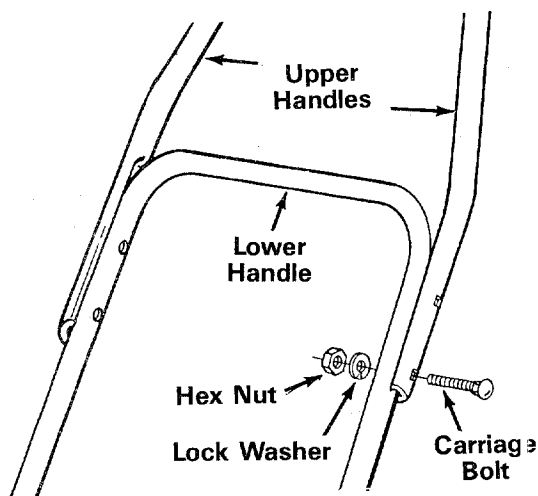

FIGURE 6
- Assemble the two upper handles to the lower handle with four carriage bolts, lock washers and hex nuts. Tighten only finger tight at this time. See figure 6.